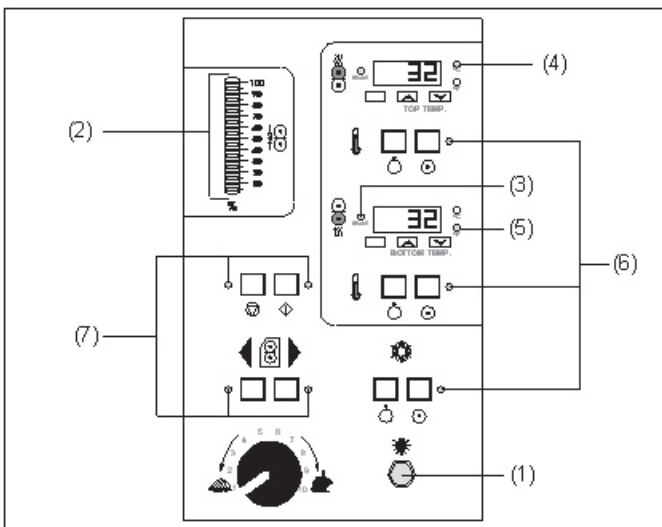

Fig 6
B. CONTROL PANEL INDICATORS: (Figure 6)
1. **POWER INDICATOR** : Illuminates when the laminator is plugged in and **POWER ON/ OFF** is in the on, (I), position.